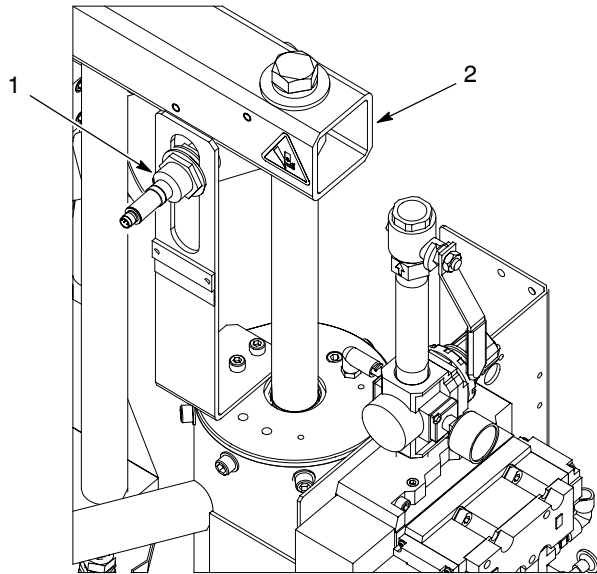

Figure 1 Rhino XD2 Low Level Proximity Sensor
See Figure 1. The Rhino XD2 Type-H Low Level Drum Proximity Sensor (1) monitors the distance between the bottom of the follower plate and the base surface of the bulk unloader frame. The proximity sensor sends a Low Level signal to the controller when the crossover (2) moves in front of the low level proximity sensor.